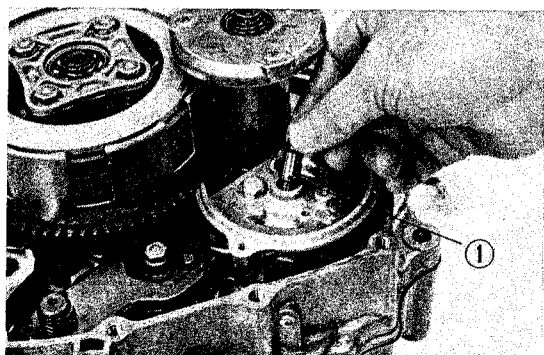

Fig. 62 ① Oil pump shaft
- 3) Align oil pump shaft to the cutout on the inner rotor gear and then assemble. (Fig. 62)